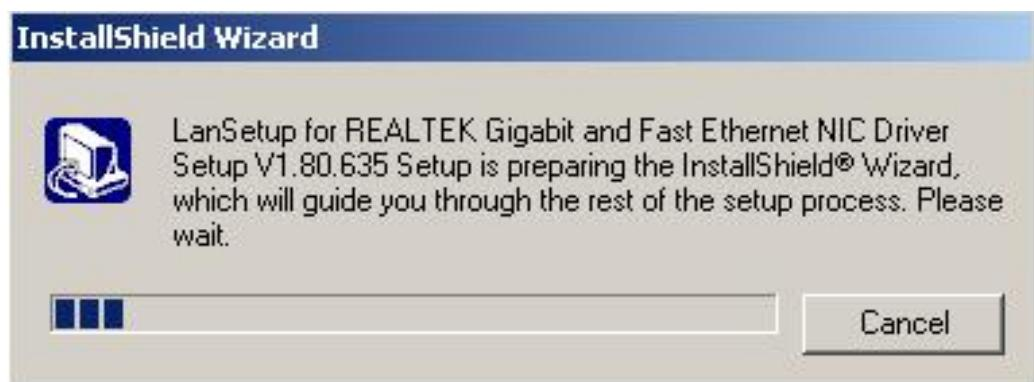

Figure 7-2: Preparing Setup Screen
Step 7: The **Install Shield Wizard** is prepared to guide the user through the rest of the process (See **Figure 7-2**)